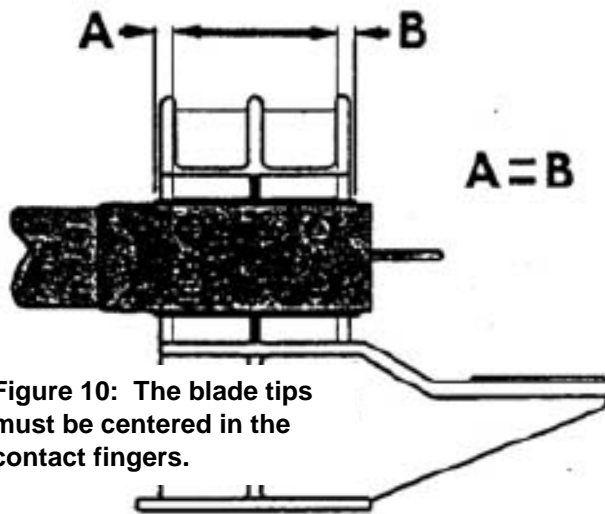

Figure 10: The blade tips must be centered in the contact fingers.
- B. The blade tips should enter the jaws centrally, without dragging on either contact surface (Figure 10). Minor misalignments can be corrected by jacking the jaw up or down with the jack screws.